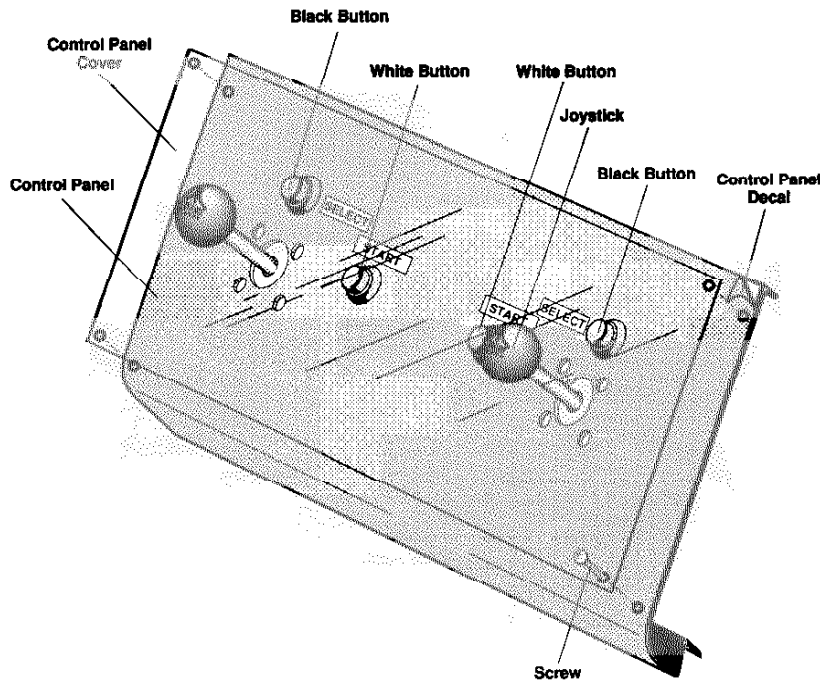

Figure 1-2 Assembling the Cyberball 2072 Kit Control Panel and Cover
5. Tape the templates next to each other on the control panel cover. See Figure 1-2 for the controls arrangement.
3. Put the control labels on the control panel. (See Figure 1-2.)
1. Install the black player control buttons on the left player and the white player control buttons on the right. (See Figure 1-2.)
2. Mount each joystick assembly on the control panel with four carriage bolts and locknuts. Install the joysticks so the Atari Games logos are upright. See Figure 1-2.